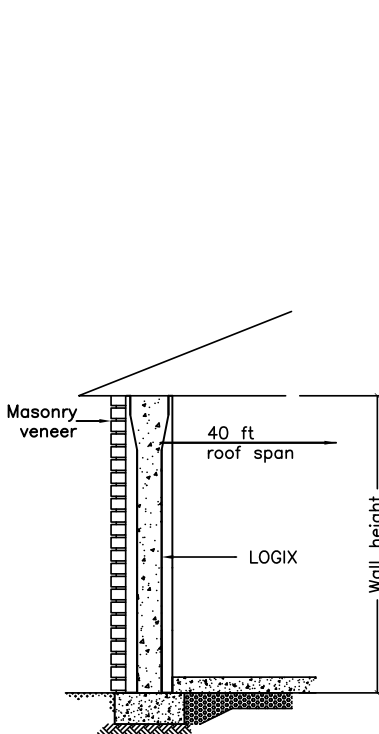

Fig 3A
- One storey LOGIX supporting wood roof frame (Fig. 3A)
The above-grade tables shall be used in conjunction with the notes listed below, the building limitations noted in the "Reinforcement Tables" section, and Figures 3A to 3B, which form the basis of this table.